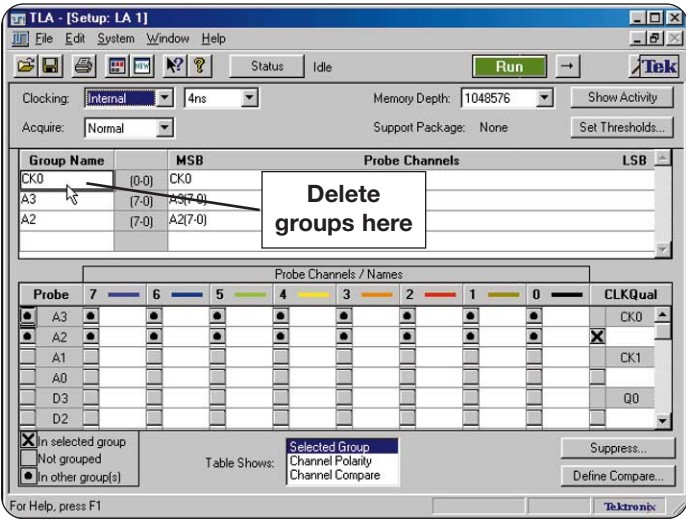

Figure 7-2: Delete default groups.
2. Right-click on any one of the channel groups under the Group Name column (see Fig 7-2).